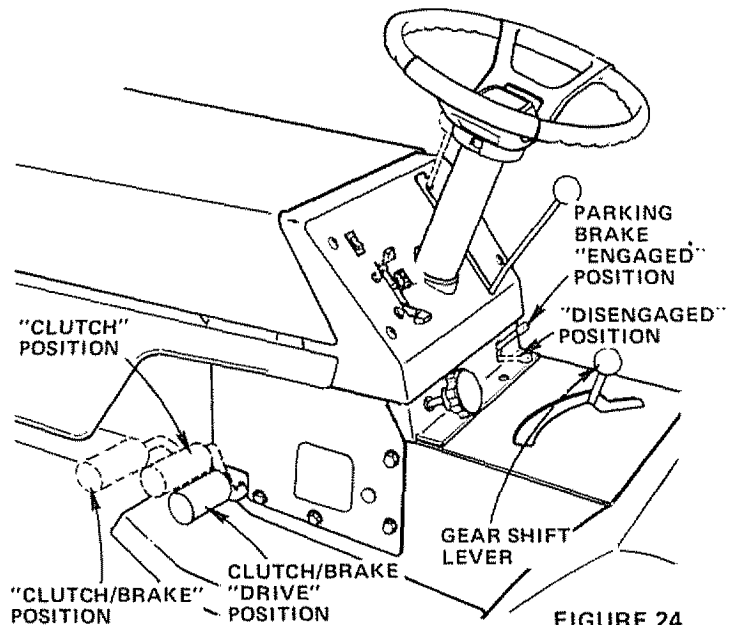

FIGURE 24
3. Move Gear Shift Lever to "1ST" Gear (Fig. 24).
NOTE: ALWAYS OPERATE ENGINE AT FULL THROTTLE WHEN MOWING TO ASSURE BETTER MOWING PERFORMANCE. LONG ENGINE LIFE AND PROPER DISCHARGE OF CUT MATERIAL REGULATE GROUND SPEED BY SELECTING A LOW ENOUGH GEAR (FIG. 24) TO GIVE THE MOWER CUTTING PERFORMANCE PLUS QUALITY OF CUT DESIRED.
3. Place Parking Brake in "ENGAGED" position. Raise Parking Brake Lever and hold in "ENGAGED" position (Fig. 24). Release Clutch-Brake Pedal.
For pushing or towing your tractor, place Gear Shift Lever in "NEUTRAL" position (Fig. 24). Push Clutch-Brake Pedal down firmly to "DISENGAGE" Parking Brake (Fig. 24). NOTE: DO NOT TOW YOUR TRACTOR FASTER THAN SIX MILES PER HOUR.